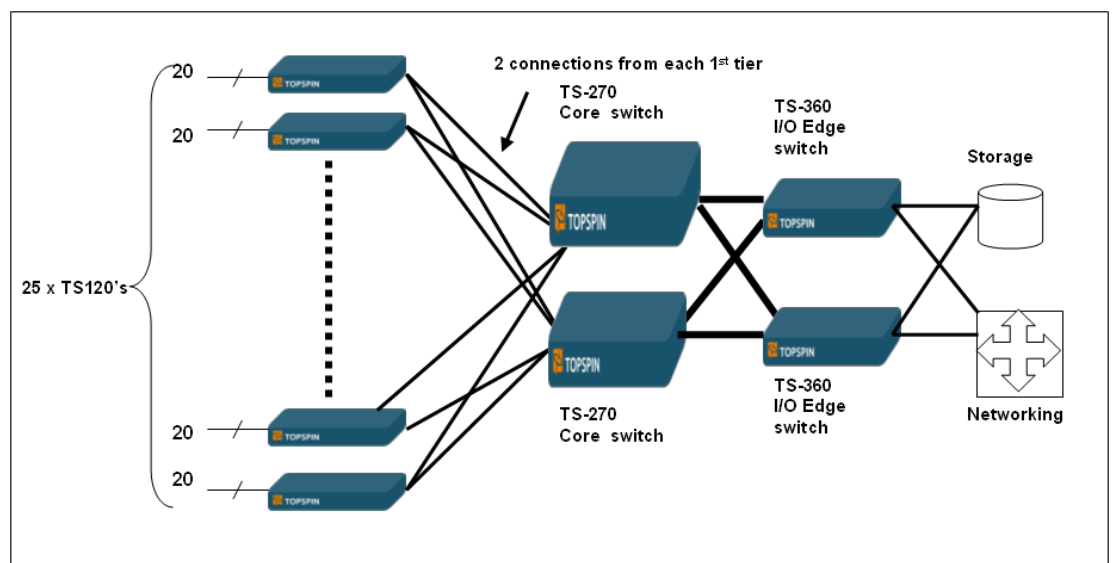

Figure 1-2: Example Data Center Cluster
The diagram in Figure 1-2 illustrates the topology for a 500-node blocking Data Center (DC) cluster. Every 20 nodes would connect directly to a TS-120 leaf switch. Each TS-120 switch would connect with two ports to each of 2 TS-270 core switches. The TS-270's would then be cross connected to 2 TS-